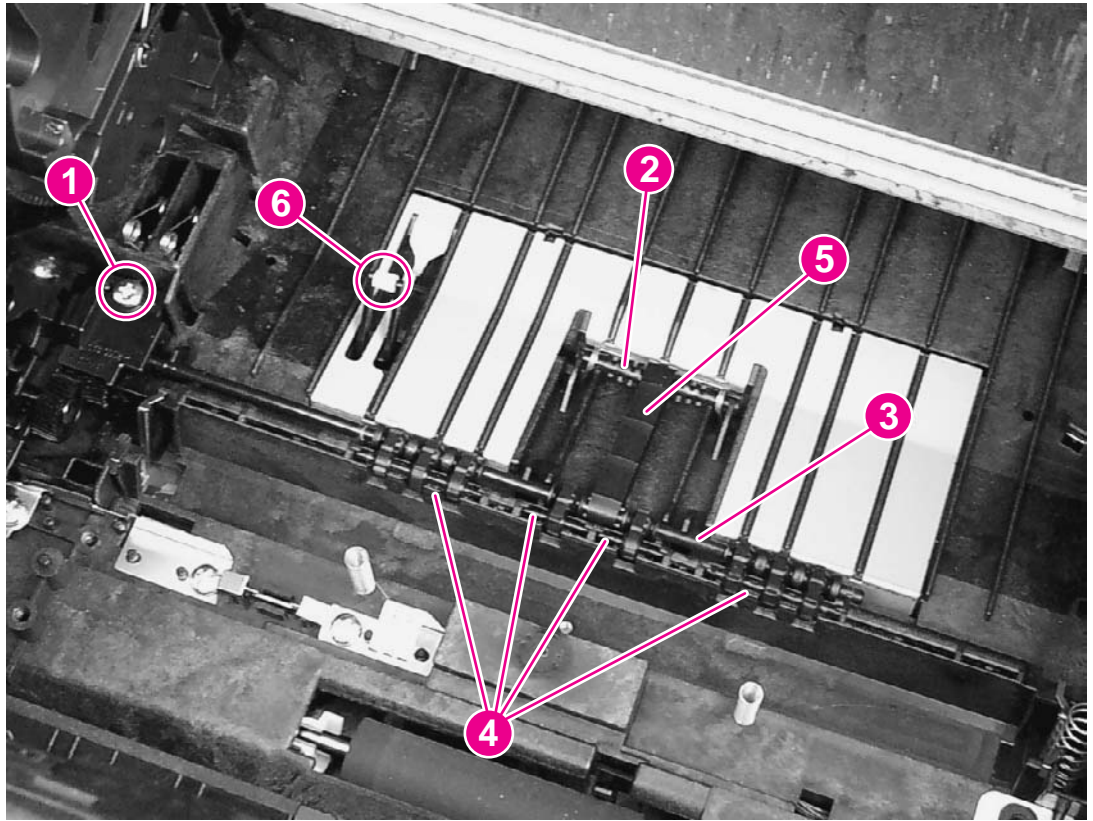

Figure 5-53. Removing the feed-drive shaft
2. Remove the fuser-wrap sensor roller (see Figure 5-53. Removing the feed-drive shaft).